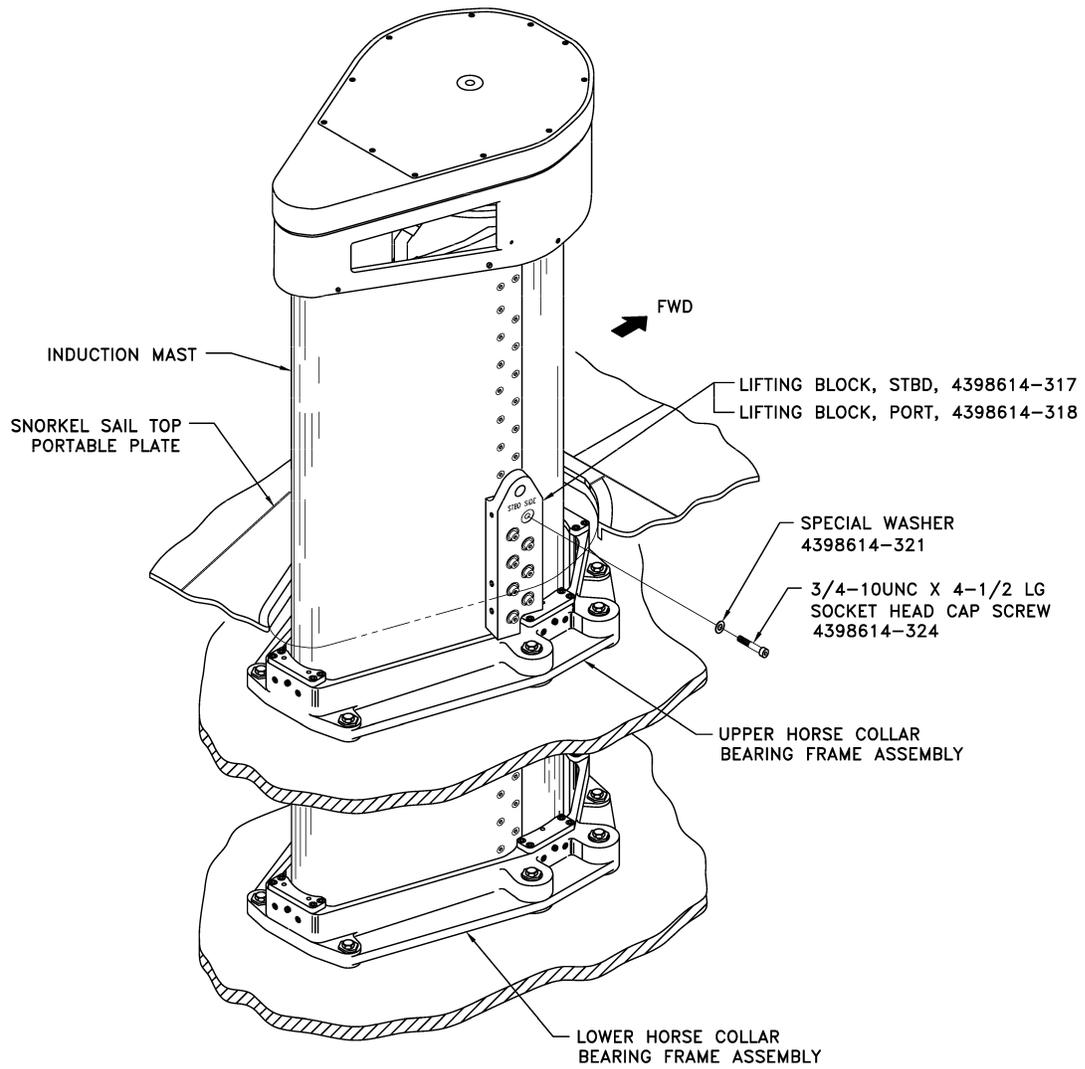

Figure 3-8 Lifting Block Supported by Bearing
- e. The snorkel mast is settled by its own weight so that the lifting blocks rest on the upper horse collar bearing frame with the notch clearing the bearing shoe retainer. (See Figure 3-8.)